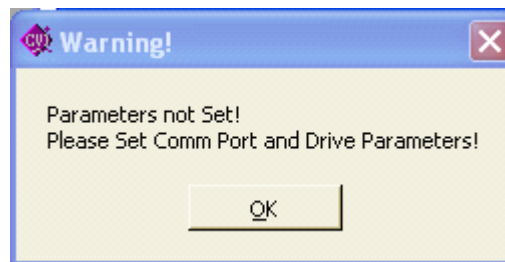
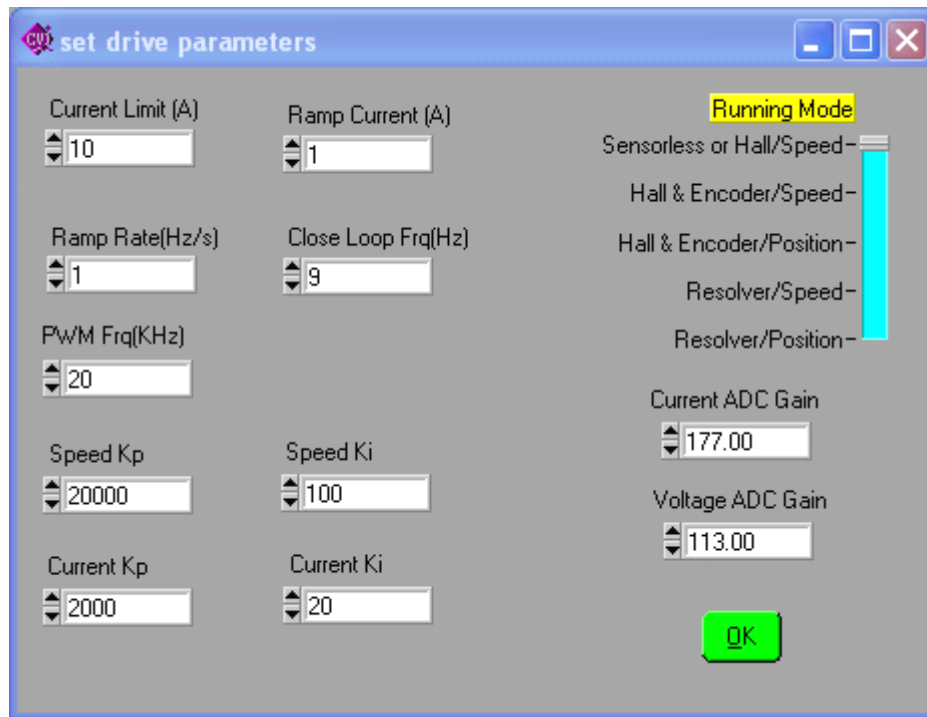

Fig. 5 Parameter Not Set Error Window
Fig. 6 Set Drive Parameters Window
An error message window will appear if this is the first time the GUI program is launched (Fig. 5). Click on “Ok” button, then both “COM Port Config” window and “set drive parameters” window (Fig. 6) appears. Set COM port first. Make desired changes to controller parameters in the “set drive parameters” window. Click on “Ok” button to finish setting controller parameters. The parameters are stored on the PC and in the controller.
Step 1: Open “set drive parameters” window by clicking on “Set Drive” button in main GUI window. “set drive parameters” window pops up (Fig. 6). Set current limit according to the controller and motor ratings, set ramping current the same as current limit, set PI regulator gains of speed loop and current loop. Ignore close loop frequency and ramp rate because they are for sensorless operation mode. Click on “Ok” button to close the window.
Step 1: Open “set drive parameters” window by clicking on “Set Drive” button in main GUI window. “set drive parameters” window pops up (figure 6). Set current limit according to the controller and motor ratings. Leave PI regulator gains of speed loop and current loop unchanged (default value). Set ramping current to 1 amp, set close loop frequency to 10% of rated frequency, and set ramp rate to 10 Hz/s. Click on “Ok” button to close the window.